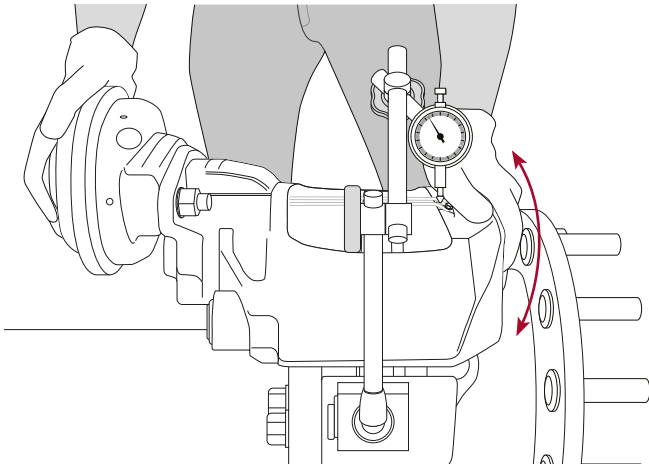

Figure 136: Rocking Calliper to Measure Guide Play with Dial Gauge
3. Tilt calliper towards axle and set dial indicator to zero. Refer Figure 136.
4. Pull calliper away from axle and read indicator. Calliper free play should not be more than 2 mm (0.080"). Refer Figure 136.